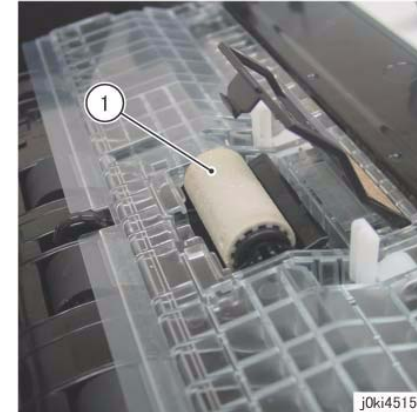

Figure 2 Remove the Retard Roll
5. Remove the Retard Roll. (Figure 2)